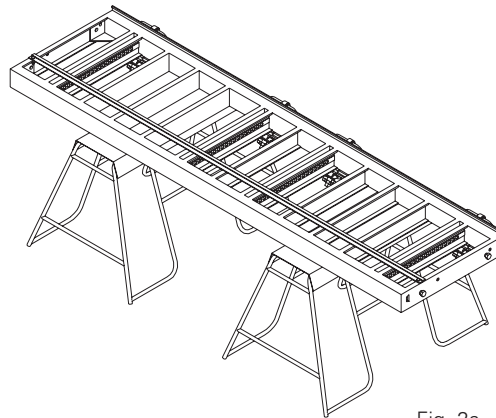

Fig. 2a
1. Place column frames on assembly trestles. Fig.2a